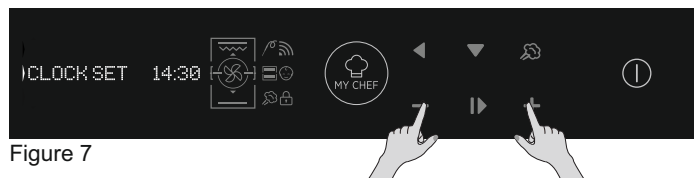

Figure 7
- Set the time by pressing the PLUS and MINUS buttons. Press OK to go ahead. (Figure 7)